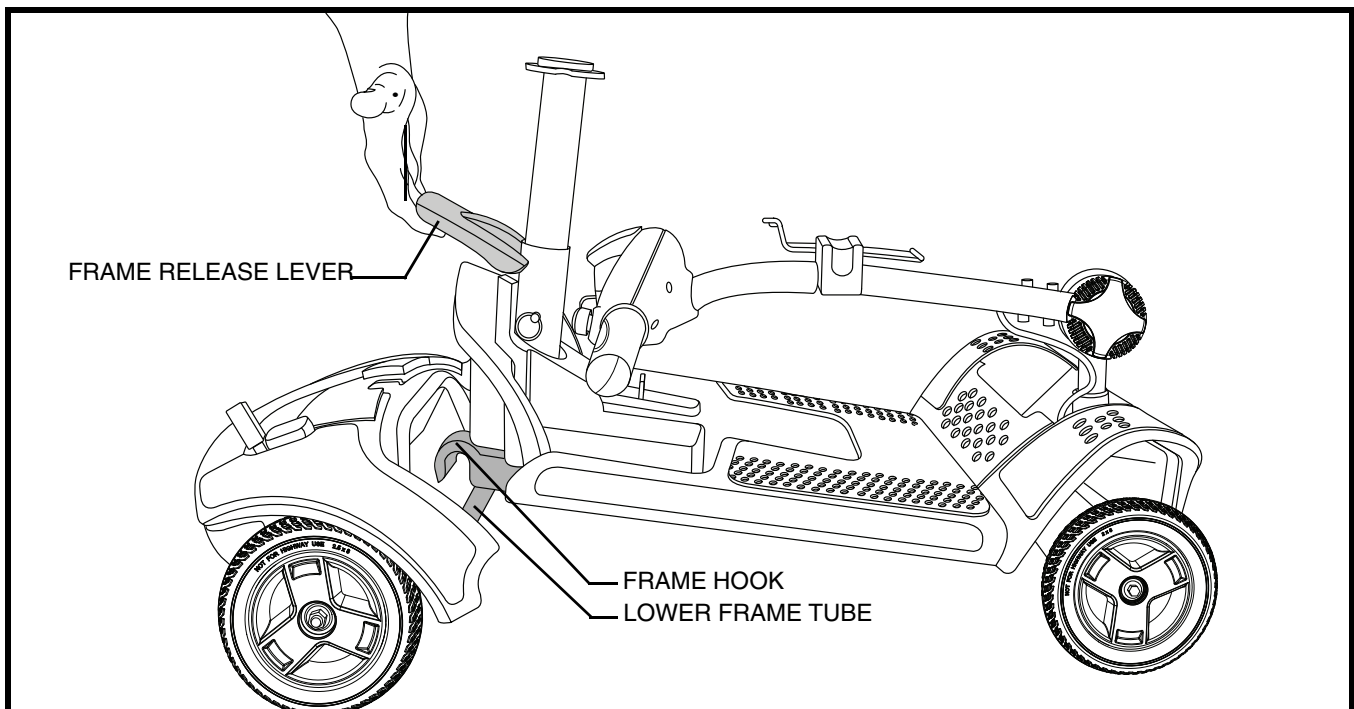

Figure 26. Frame Release Lever
3. Slowly separate the two sections of the Travel Scooter. See **figure 26**.
NOTE: Before attempting assembly, tilt the rear half of the Travel Scooter slightly back on the anti-tip wheels as shown in figure 26.
1. Use the frame release lever to lift the front section as you align the frame hooks of the front section with the lower frame tube of the rear section. See figure 26.